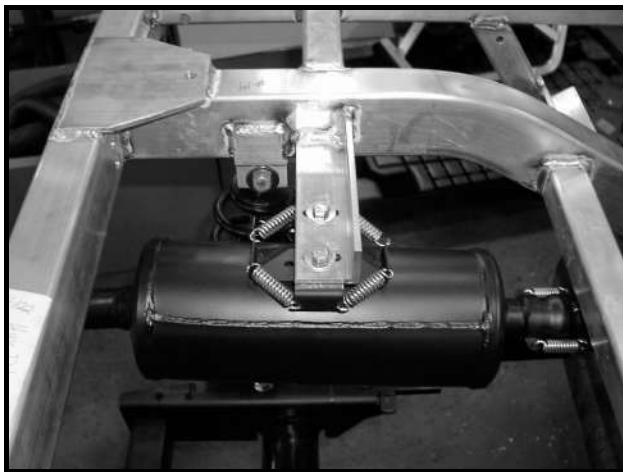

Figure 13b-9 Muffler Bracket and Inlet Pipe
4. Remove the two springs that secure the muffler inlet to the intermediate pipe (**Figure 13b-9, Page 13b-6**). **See following NOTE.**